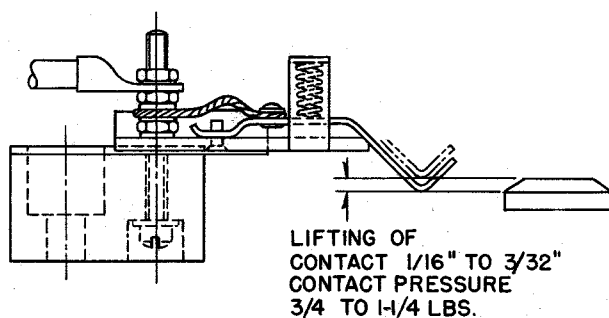

Fig. 5 - Interlock Contact Finger Lift
- e. Check the interlock finger contact pressure (see Maintenance Data) and lift (contact lift is checked only when the movable contact block assembly is not equipped with filler blocks), see Fig. 5. If the lift of the interlock finger does not fall within limits, adjustment should be made by bending the finger. The finger should not be bent more than $3/32$ " to obtain the proper amount of lift. If further adjustment is necessary, fishpaper shims should be inserted behind interlock block.